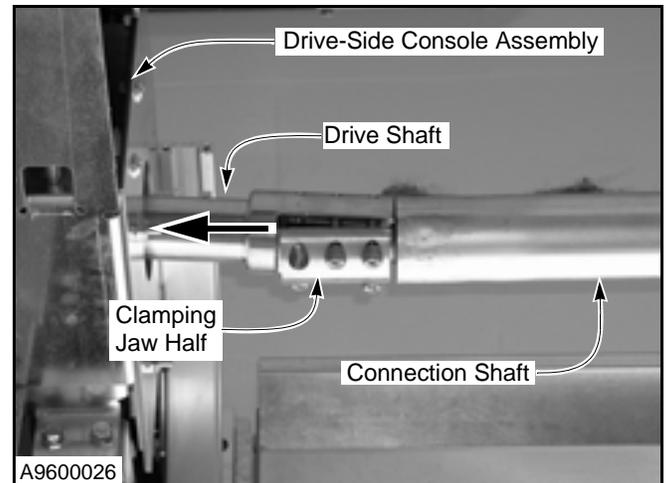

Figure 30
- Loosen the hardware on the opposite end of the drive shaft but do not remove the clamping jaw half, and insert the end of the connection shaft. (See Figure 30.)